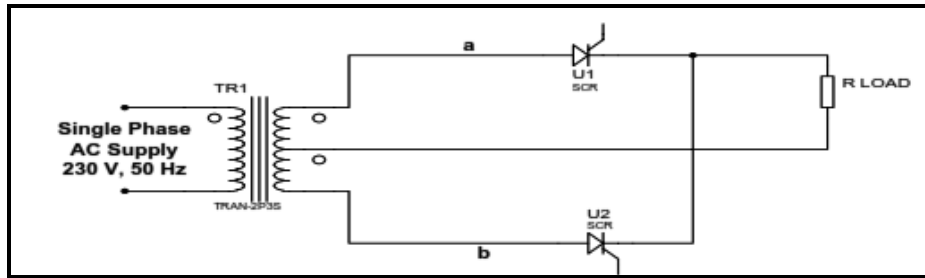

Fig. 9.1 Full wave controlled rectifier with R load
1. Make the circuit connection as per the circuit diagram shown in Fig. 9.1.